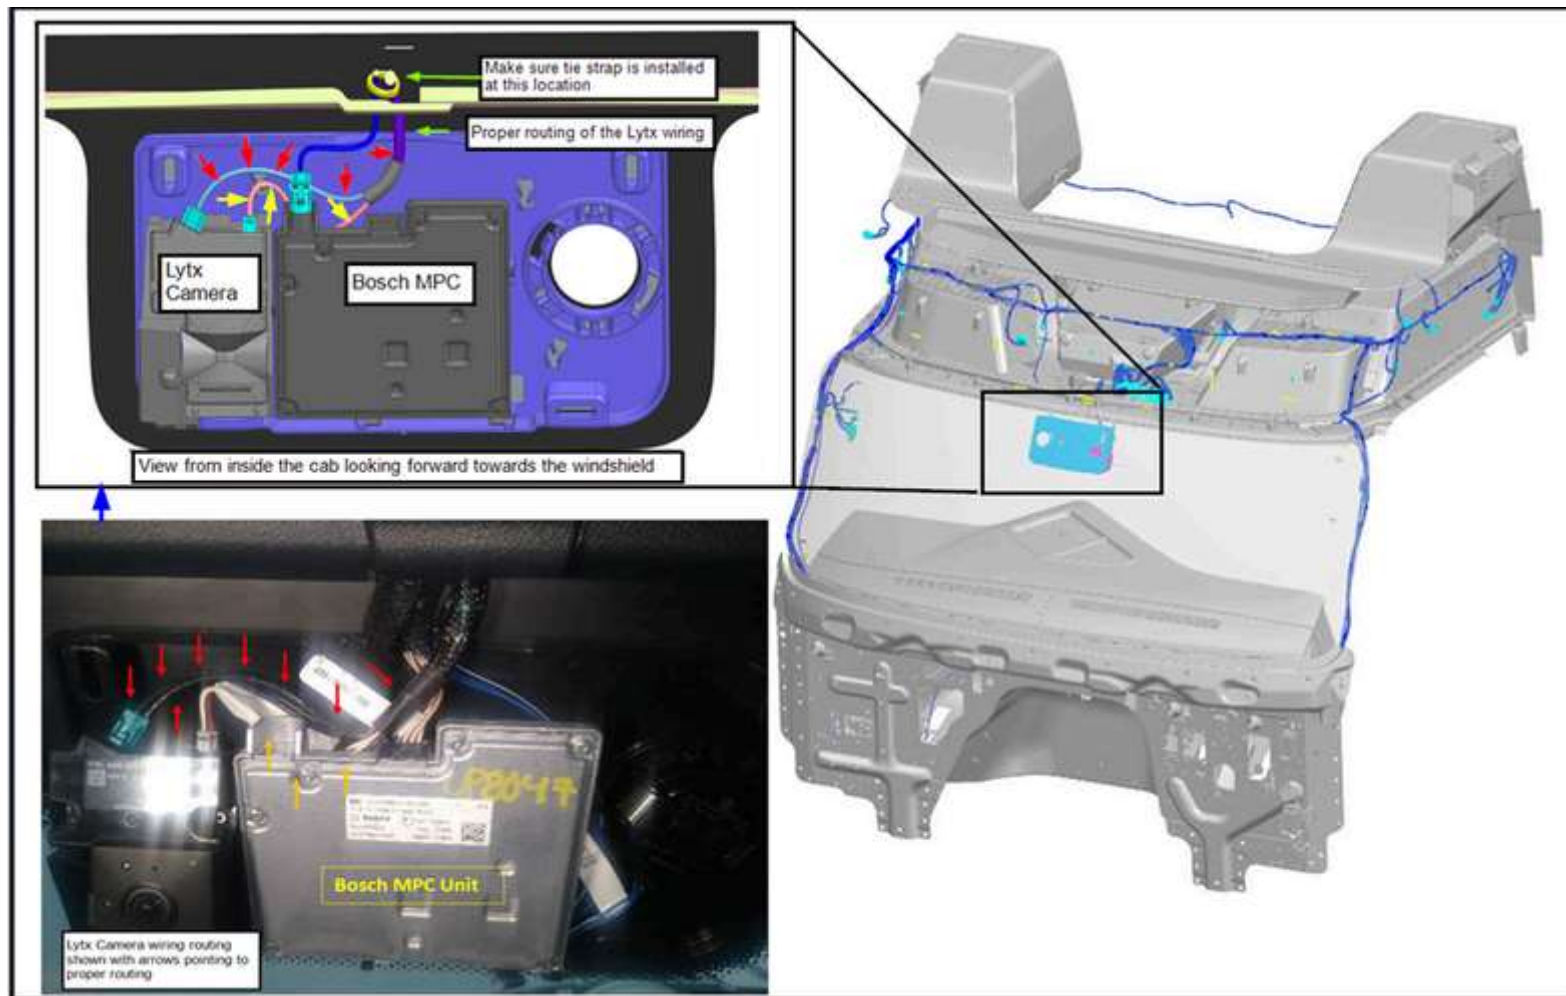

Figure 2
2. Ensure Lytx SF500 camera module cable is correctly routed on the MPC3 mounting bracket. Both cables must have correct service loops and no additional/extra length of cable in this area. Additionally, cables must not be routed in front of the Bosch MPC3 camera. Refer to figure 2 for correct cable routing, red arrows showing visible cable routing while yellow arrows showing invisible cable routing (behind Bosch MPC unit). Failure to route the wires properly on the MPC3 mounting bracket can lead to chaffed or pinched wires.